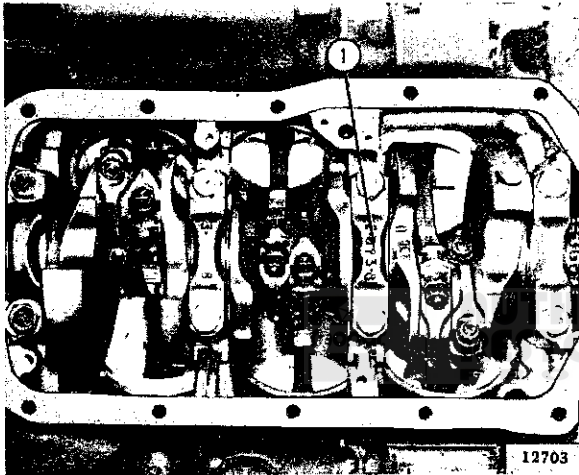

FIG. D1-9—CRANKSHAFT MAIN BEARING CAPS
a. This engine has four crankshaft main bearings. Front to rear, they are numbered 1 to 4. Refer to Fig. D1-9. With a silver pencil or quick-drying paint, mark the bearing number on each main bearing cap.